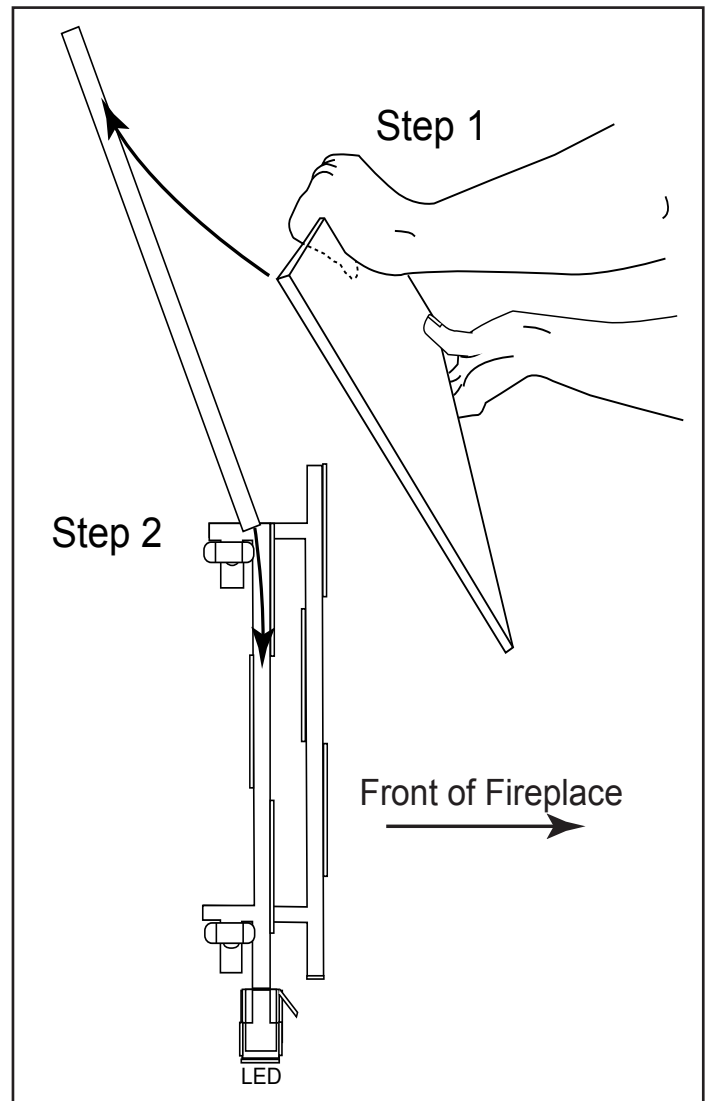

Figure 40 Installing glass panels.
- Using gloves carefully lift one glass panel, into the fireplace opening, over top of the glass clips, and slide it down into the metal retainer clip, supporting the glass at the top and bottom as you handle it. See Figure 40. As the glass enters the clip the bottom edge of the glass will rest in place on the bottom of the clip.
- Install the second glass pane in the same manner as described in Figure 40.